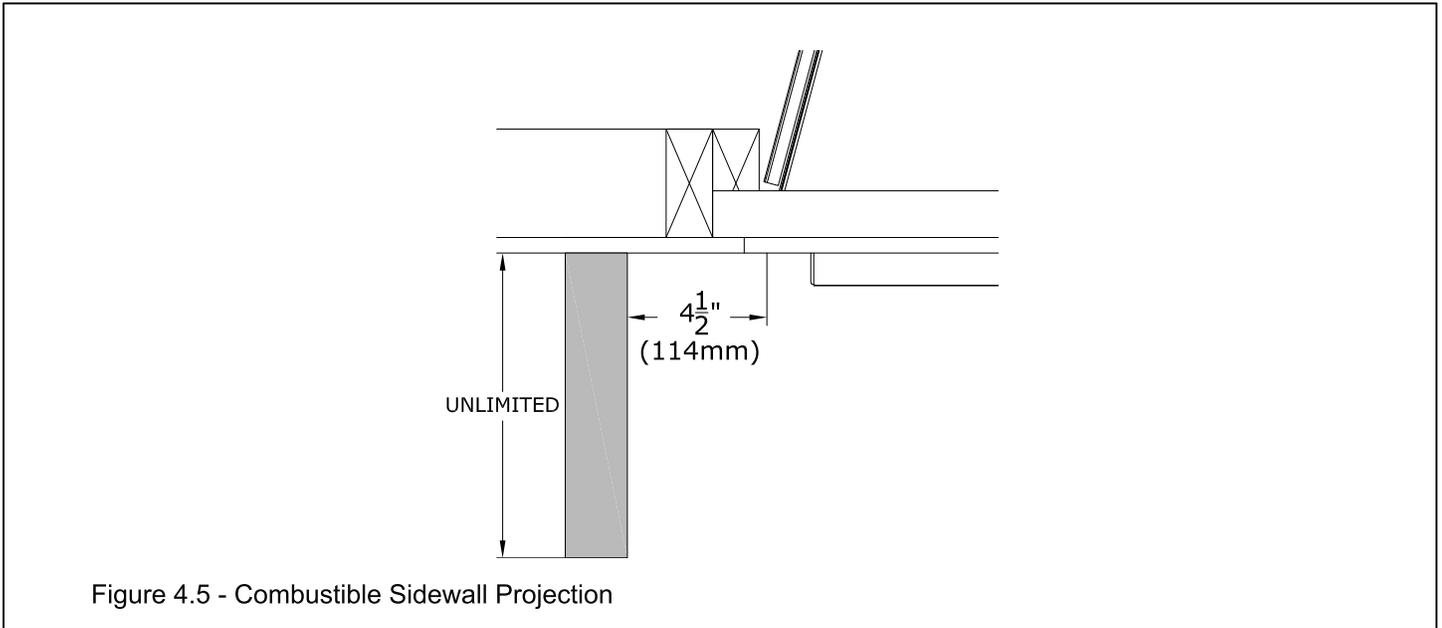

Figure 4.5 - Combustible Sidewall Projection
- **Mantel Leg:** Follow "Side Combustible Clearance" below. See FIGURE 4.5.
- **Combustible Sidewall Clearance:** the adjacent sidewall projection is unlimited and starts at 4-1/2" (114mm) from the side of the fireplace. See FIGURE 4.5.